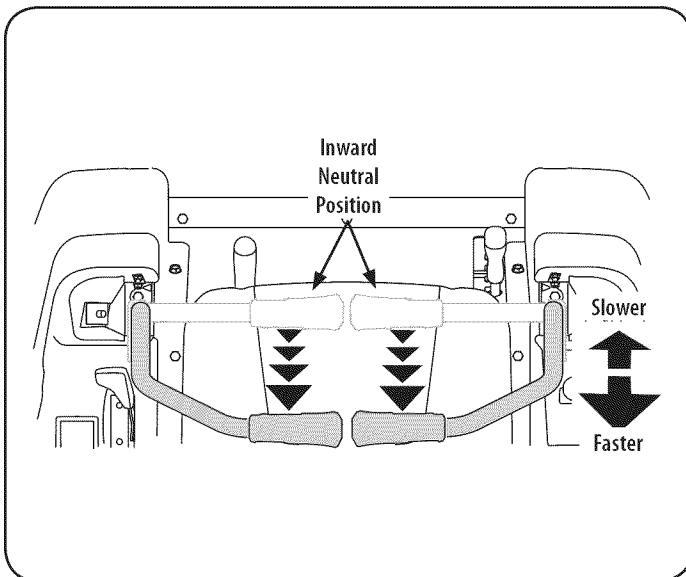

Figure 18
1. Slowly and evenly move both drive control levers rearward. The riding mower will start to move in the reverse direction. See Figure 18.